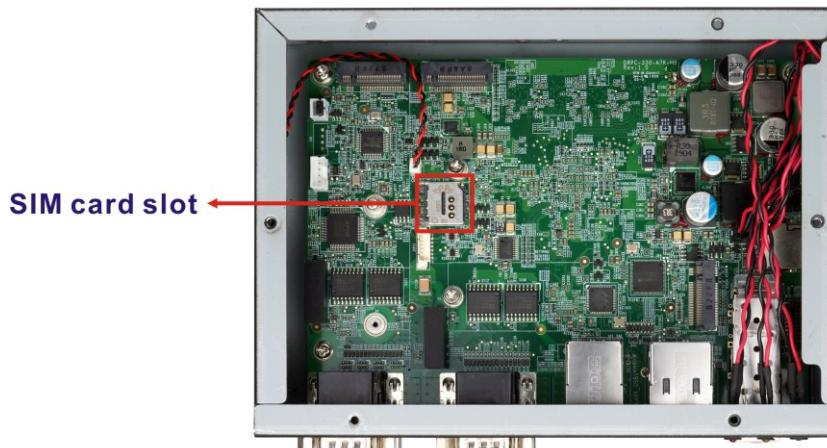

Figure 3-5: Unlock SIM Card Slot Cover
Step 1: Locate the Micro SIM card slot (**Figure 3-5**).